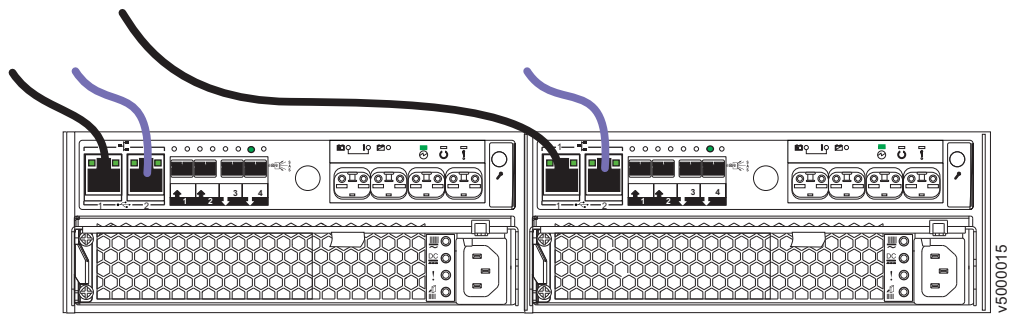

Figure 17. Connecting the Ethernet cables
1. Connect Ethernet port 1 of each node canister in the system to the IP network that will provide connection to the system management interfaces, as shown in Figure 17. This port can also be used for iSCSI connectivity to the system by hosts on the network. Where more than one control enclosure is present in the system, ensure port 1 of every node canister is connected to the same network to provide access if the configuration node fails.
2. Optionally, connect Ethernet port 2 of each node canister in the system to a second IP network that will provide redundant connection to the system management interfaces, as shown by the lighter cable connection in Figure 17. This port can also be used for iSCSI connectivity to the system by hosts on the network. If there is more than one control enclosure in the system, ensure that port 2 of every node canister is connected to the same network to provide access if the configuration node fails.